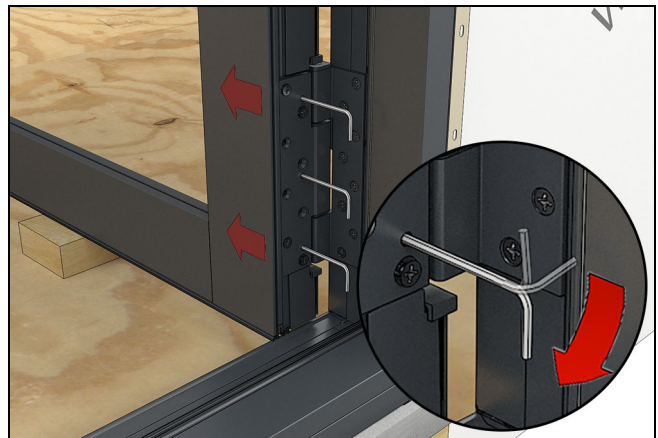

Figure 82
4. To make the necessary horizontal adjustments, use the 3mm hex wrench to turn the 3 set screws. Turn the screws clockwise to move the hinge away from the jamb. Adjust all three set screws to approximately the same depth. See Figure 82.